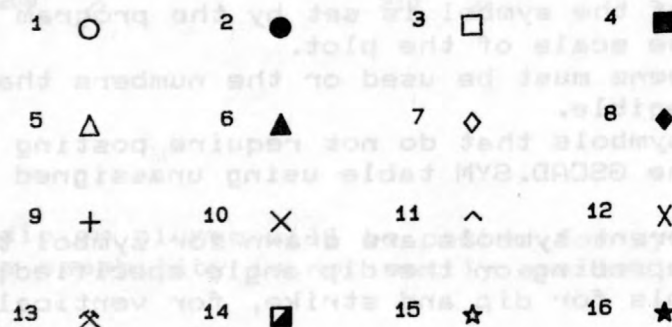

Figure 5
2. PARA 1: symbol number, (fig. 5)